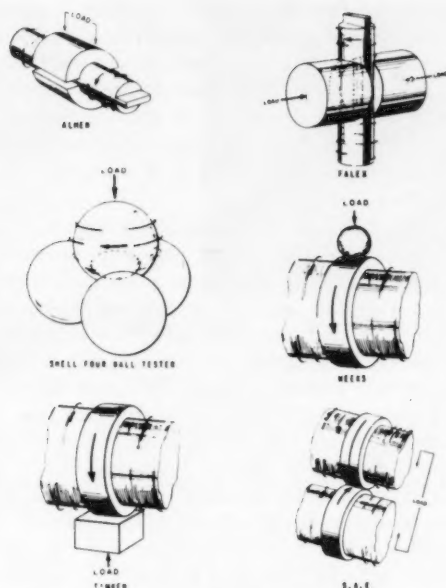

Fig. 3 Principles of operation of common types of extreme-pressure oil-testing machines
Extreme Pressure Oils. Another property of oil that sometimes is utilized in implement design is the matter of load-carrying capacity. The petroleum industry uses several types of test machines to measure this property. In Fig. 3 the geometry and principle of operation are shown for each of these machines. These test procedures, being accelerated, give results that can be interpreted only in terms of background experience with the particular machine and with the type of application to which the test is applied. These oils are known as extreme pressure (EP) oils and in general are classified into three types: